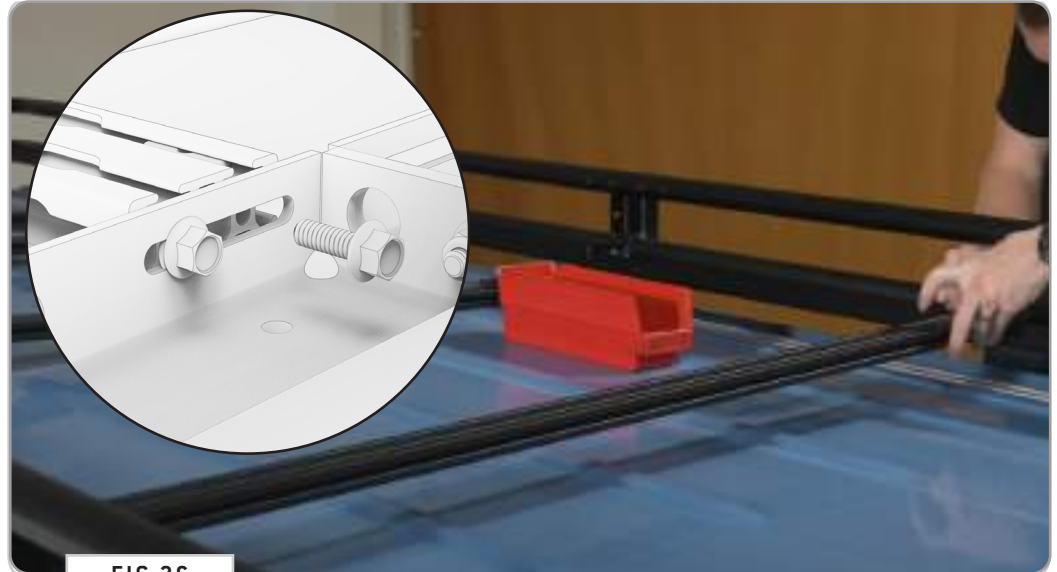
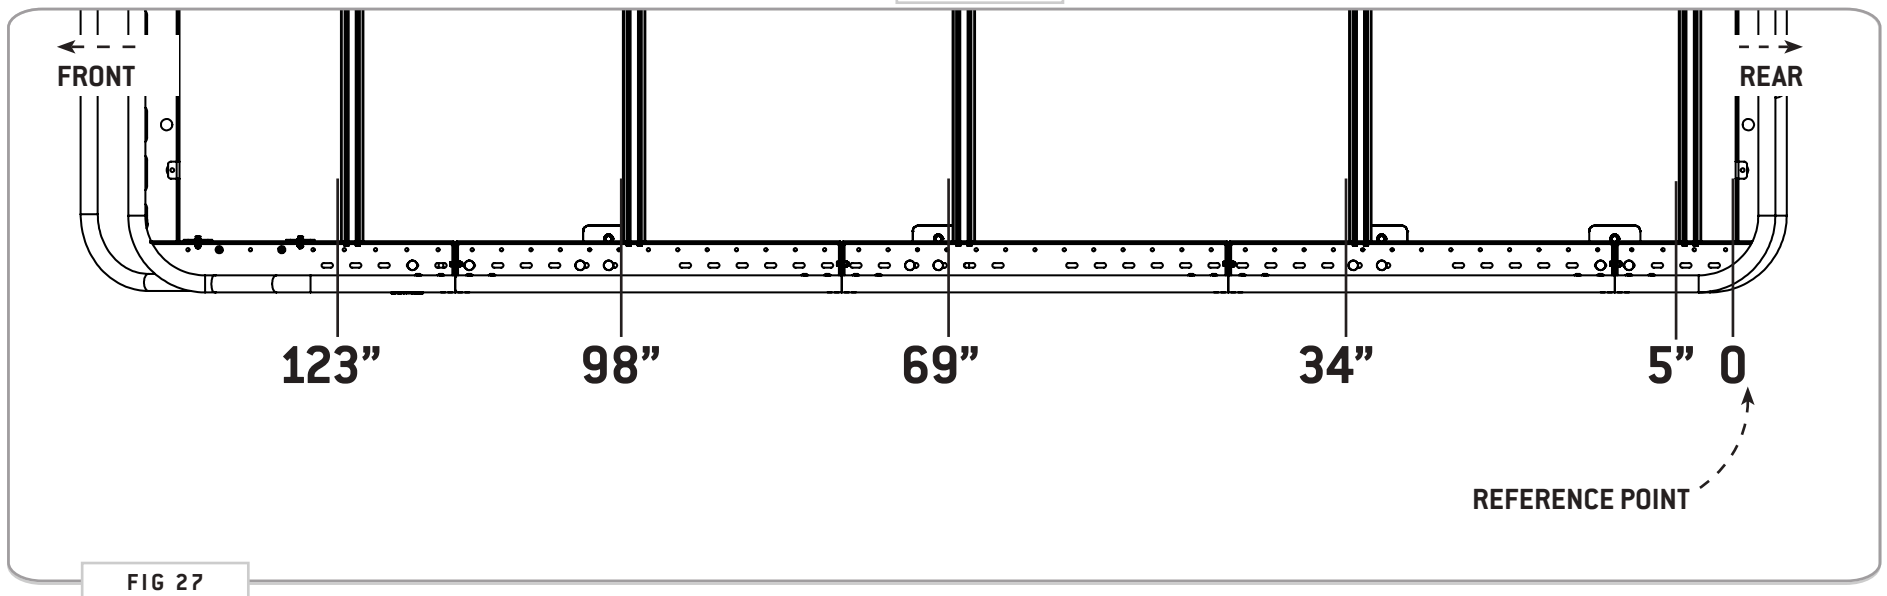

FIG 26
FIG 27
**10.1 Attach Crossbars:** Using (4ea) 1/4-20 Flanged Hex Bolts with Loctite (FIG 26), attach Crossbars to the rack in the locations shown in FIG 27. Be sure to measure both sides to ensure that the crossbars are square.